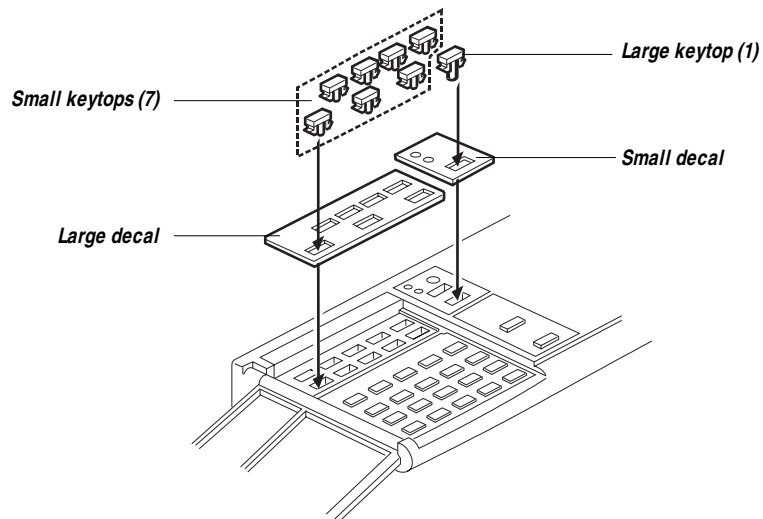

Figure 2-24 Installing Operation Panel keytops
4. ***Peel the adhesive backing off the large and small decals and place them over the areas indicated in Figure 2-24.***